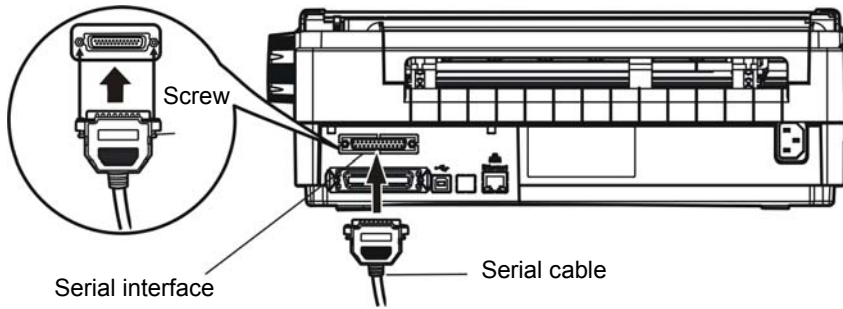

Figure 1-15 Connect to serial interface
1. Turn off both the computer and the printer. Plug the serial cable connector securely into the printer's serial interface. Tighten the screws on either side of the connector. (As shown in figure 1-15)